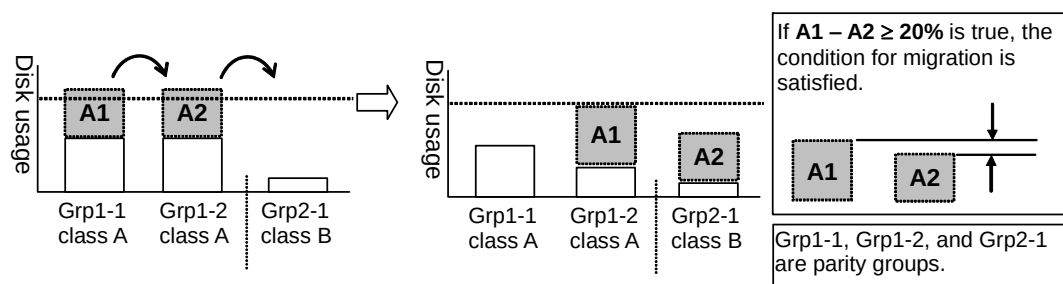

Figure 3.12 Migrating a Volume Automatically within Same HDD Class
To be able to move one volume into a parity group of the same HDD class and force another volume out of that parity group, the auto migration function requires a minimum of twenty (20) percent difference in estimated disk usage between the two volumes (see Figure 3.12). If the anticipated difference in disk usage is less than 20%, this migration is considered an ineffective strategy, and the volume is not moved.